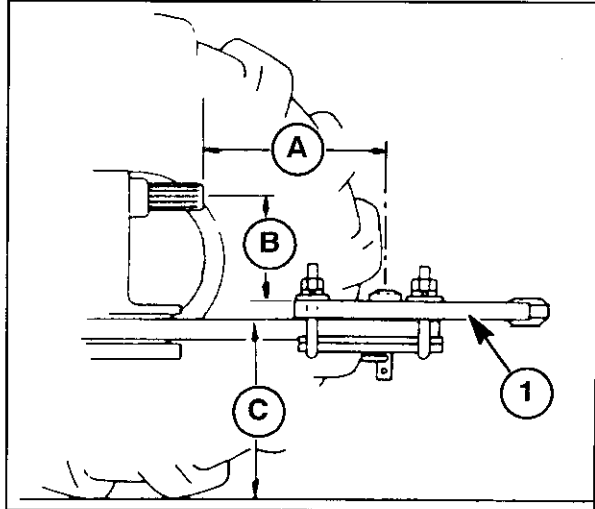
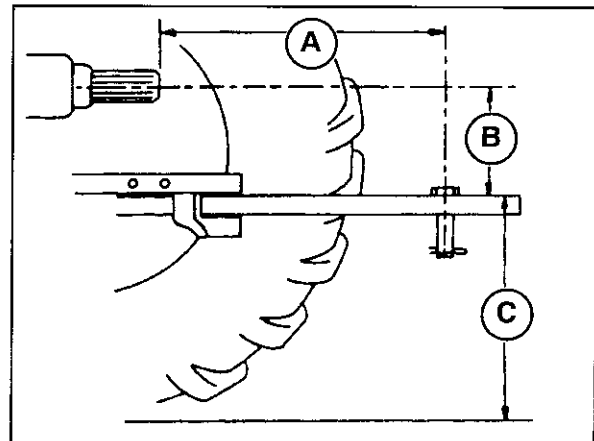

Figure 1-7
Figure 1-8
3. ASAE standard hitch and PTO dimensions conforming to category 2 or 3 specifications. (See Figure 1-7).
Ideally the top of the tractor drawbar should be 8" - 12" (203 mm - 305 mm), dimension B, Figure 1-7 or Figure 1-8, below the tractor PTO shaft. A drawbar positioned too low or high will affect the driveline angle, and may cause the PTO drive shaft to bottom out or pull apart in some conditions. Locate the drawbar directly below the PTO shaft. Clamp the drawbar so it cannot be moved from side to side.
The drawbar height above the ground, dimension C, Figure 1-7 or Figure 1-8, should be 13" - 20" (330 mm - 508 mm) for tractors up to 125 HP, and 15" - 22" (381 mm - 559 mm) for tractors from 125 HP to 160 HP.